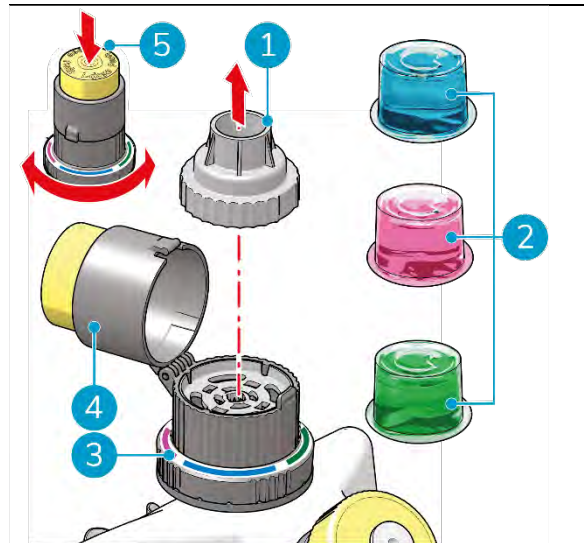

Figure 17
4. If applicable, remove the old i-dose pod and remove the cap (Figure 17, pos. 1).
5. Place the desired i-dose pod (Figure 17, pos. 2) in the i-dose injector.
6. But back the cap (Figure 17, pos. 1).
7. Close the i-dose top (Figure 17, pos. 4).